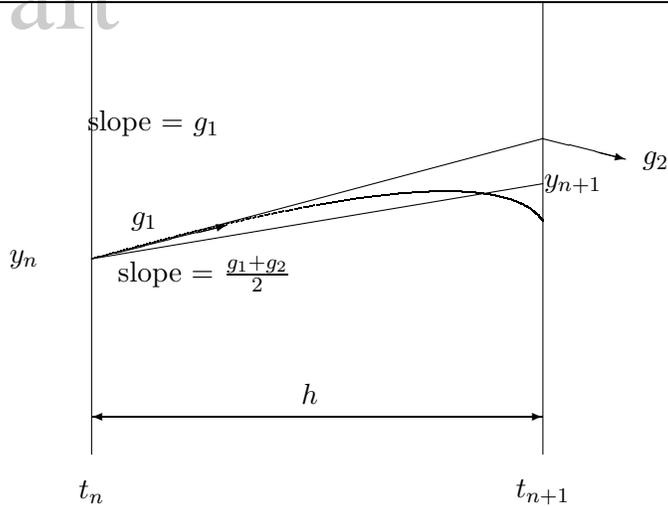

Figure 3.4: Runge's Trapezoid Method
**Trapezoid method** where we consider the average values of the derivatives, Fig.3.4